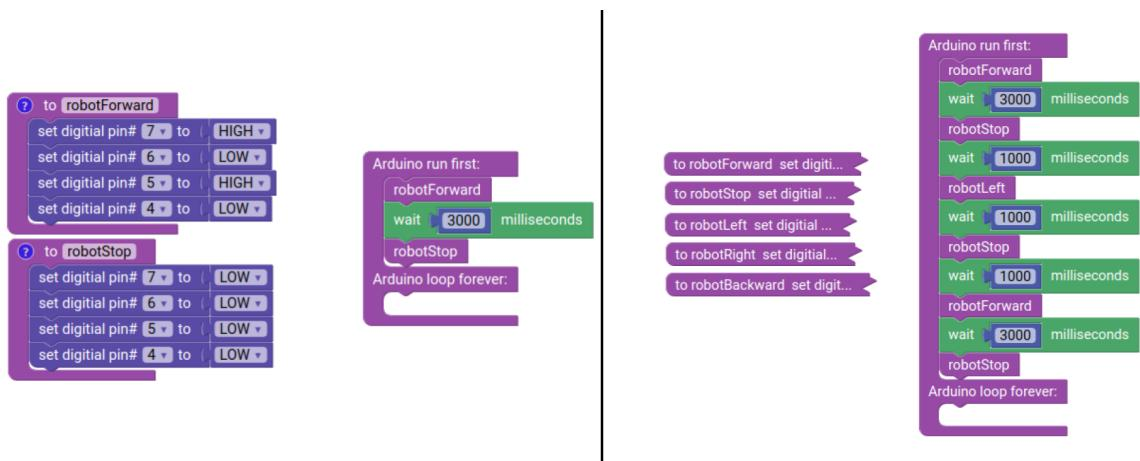

Figure 12.1: Functions in Ardublockly.
1. Write a programming functions which includes the certain programming steps in order to move the robot in specific direction. Some examples are presented in fig. 12.1.